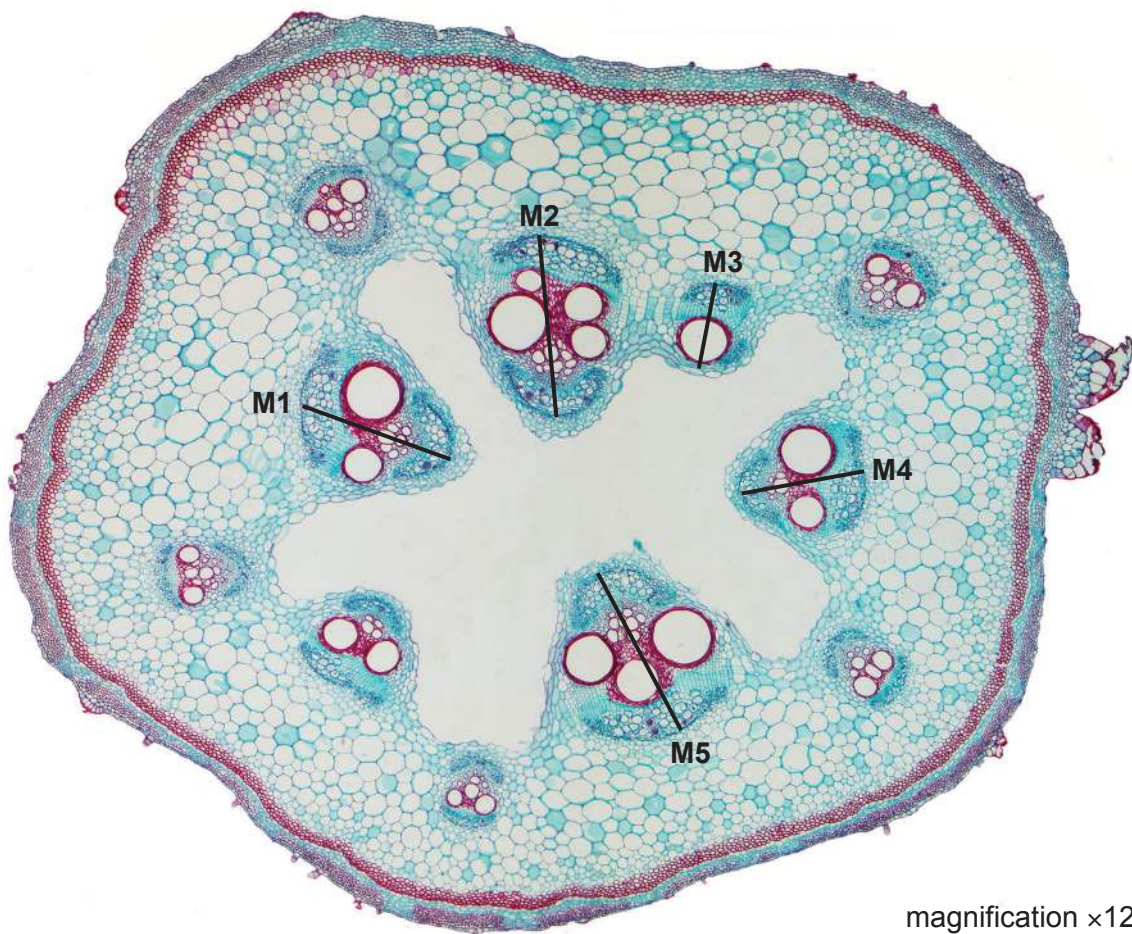
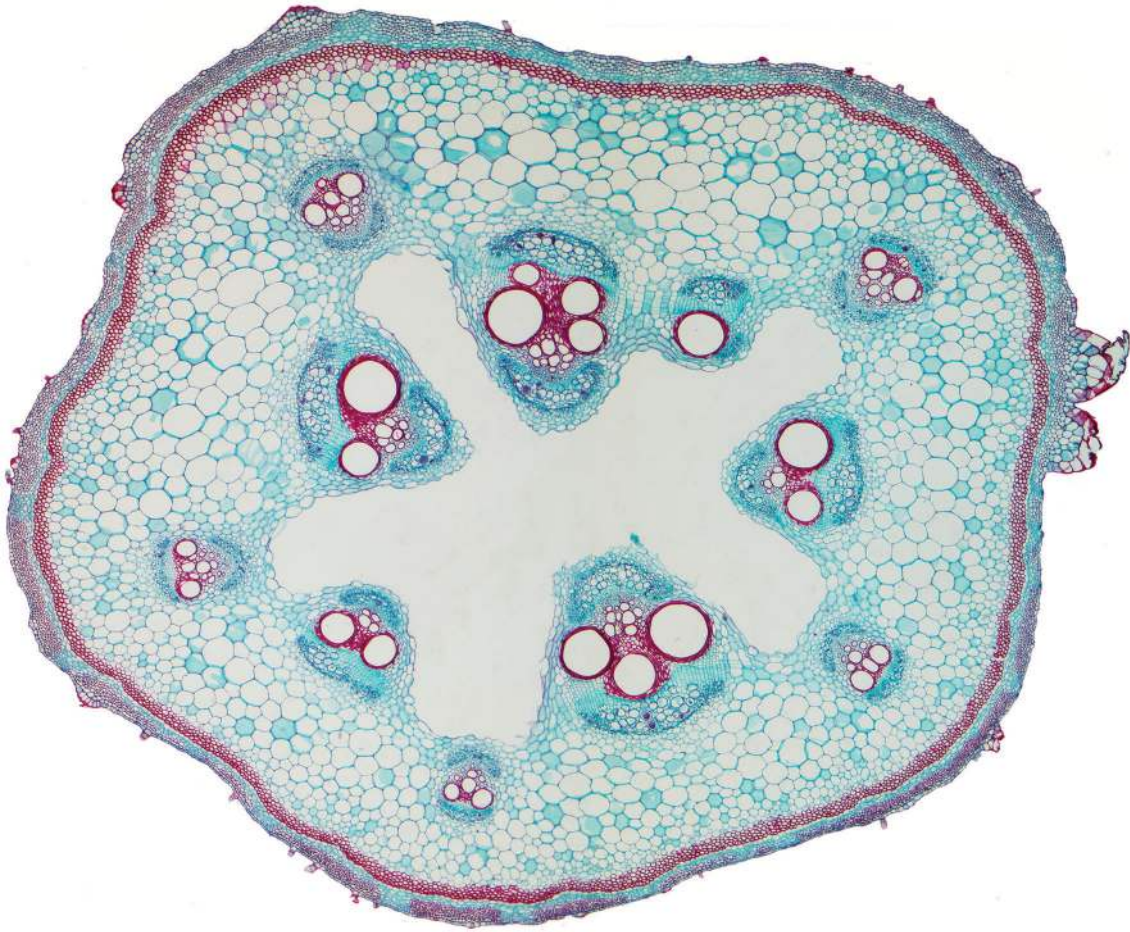

Fig. 2.2
Fig. 2.3
(b) Fig. 2.2 is a photomicrograph of a stained transverse section of a stem from a different plant.
- (i) Measure the length of the vascular bundles using the lines **M1**, **M2**, **M3**, **M4** and **M5** in Fig. 2.2 **and** calculate the mean actual length of the vascular bundles.
(c) Fig. 2.3 is the same photomicrograph as that shown in Fig. 2.2.
Identify **three** observable differences, other than colour, between the stem section on **K1** and the stem section in Fig. 2.3.